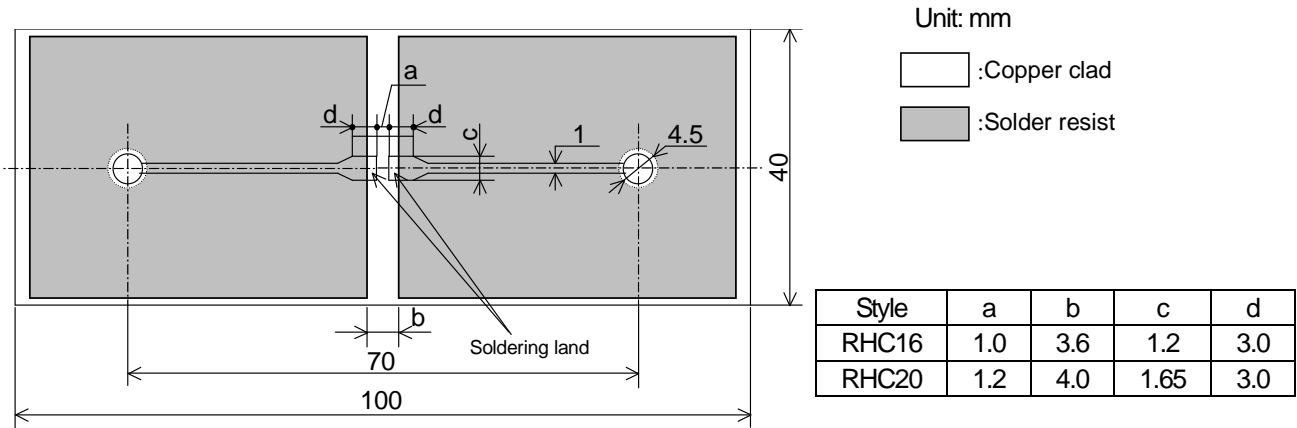

Figure-3 RHC BOUND STRENGTH OF THE END FACE PLATING TEST SUBSTRATE
| 7 | Substrate bending test | Sub-clause 6.1.4 (1) The resistor shall be mounted on the test substrate as shown in Figure-3. Bending value: 5 mm (Among the fulcrums: 90 mm) Duration: $10 \text{ s} \pm 1 \text{ s}$ | No evidence of mechanical damage. | | | | | | | | | | | | | | | |